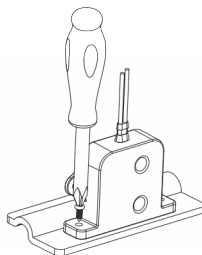
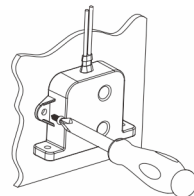

Fig 1 Using Switch Base
Fig 2 Using Mounting Ears
1. Mount the switch vertically as shown in fig. 1 (wires located uppermost). Locate the switch as close to the pump as possible to ensure the same water level.
1. Use switch base (Fig. 1) or mounting ears (Fig. 2) as a template to mark pilot holes in mounting block.